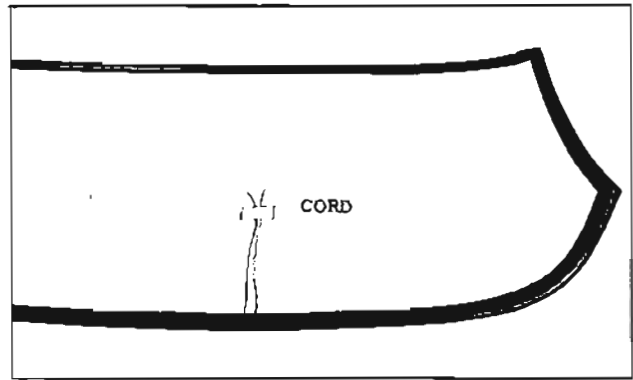

Fig. 16-8 Cord Installation
3. Install a strong cord in pinch-weld cavity of rubber channel completely around windshield. Tie ends of cord and tape to inside surface of glass at bottom center of glass. (Fig. 16-8)